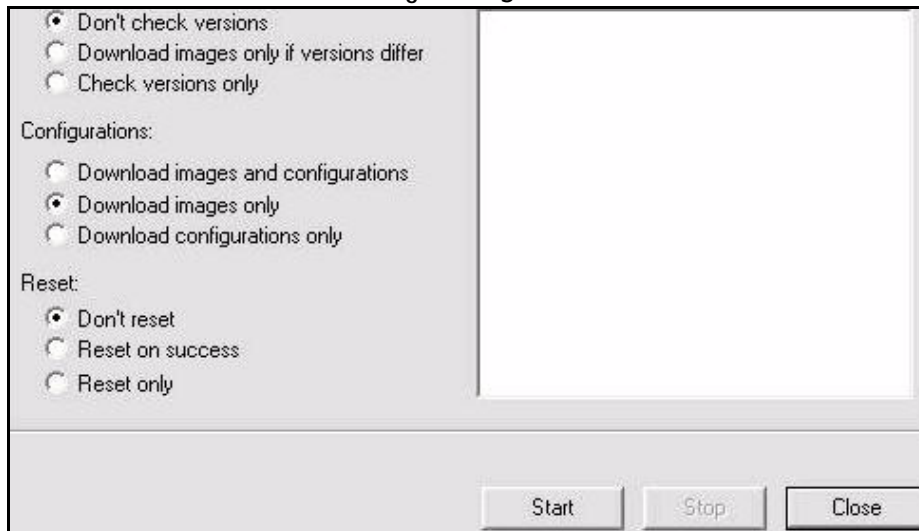

Figure 17. Download Package Dialog Box with Correct Selections
12. In the Download Package dialog box, select the options show in Figure 17:
3. In the Download Package dialog box, select the following options, as shown in Figure 17 on page 17.